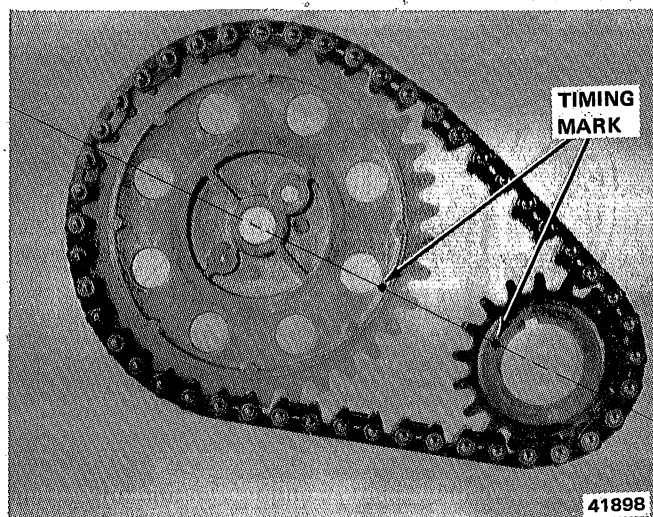

Fig. 1B-65 Timing Sprocket Alignment
- (1) Remove drive belt(s).
- (2) Remove engine fan and hub assembly.
- (3) Remove vibration damper pulley.
- (4) Remove vibration damper.
- (5) Remove timing case cover.
- (6) Remove oil seal from timing case cover.
- (7) Remove camshaft sprocket retaining screw and washer.
(8) Rotate crankshaft until timing mark on crankshaft sprocket is closest to and on centerline with timing mark of camshaft sprocket (fig. 1B-65).
(1) Assemble timing chain, crankshaft sprocket and camshaft sprocket with timing marks aligned (fig. 1B-65).
(2) Install assembly on crankshaft and camshaft.
(3) Install camshaft sprocket retaining screw and washer and tighten with 50 foot-pounds (68 N•m) torque.